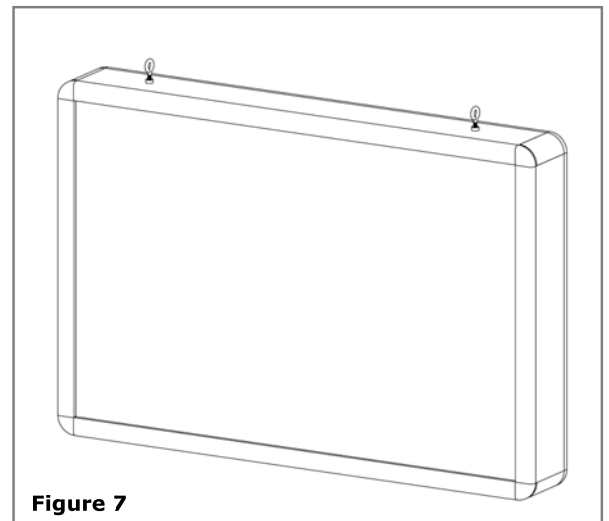

Figure 7
2. **Suspended Option** – Hanging loops are attached to the unit when constructed. Attach appropriate hanging hardware (chain, cables, etc.) to suspend unit. Cord may be tied to chain or cables with tie-wraps. **See Figure 7.**